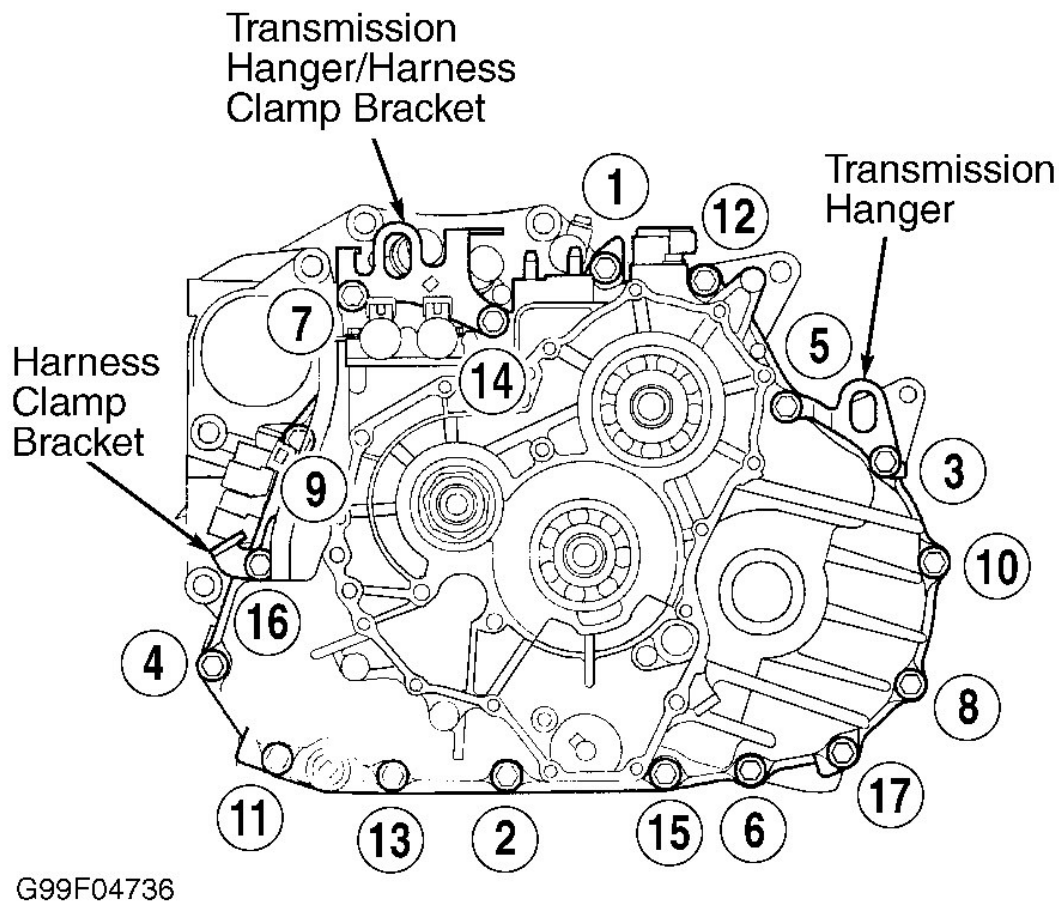

Fig. 32: Transaxle Housing Bolt Tightening Sequence
5. Install and tighten transaxle housing-to-torque converter housing bolts to 33 ft. lbs. (44 N.m) in sequence. See **Fig. 32** . Rotate differential assembly several revolutions in both directions to seat bearings.
11. Install dowel pins and NEW gasket on torque converter housing. Install transaxle housing on torque converter housing. Install and tighten bolts to specification in sequence using several steps. See **Fig. 32**.